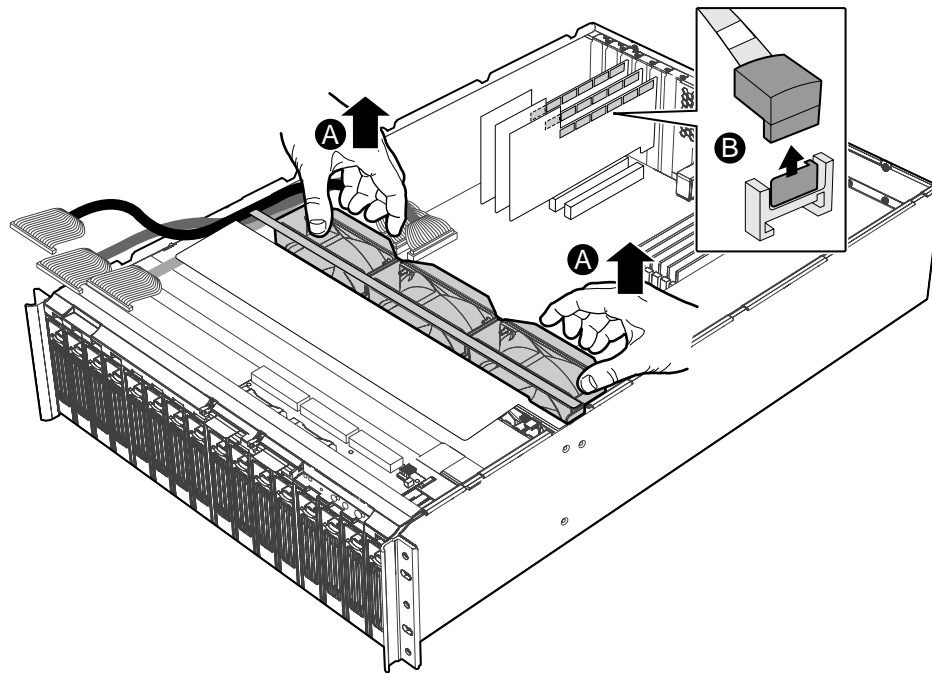

Figure 6. Removing Fan Assembly and SATA Cable Connectors
- B. Carefully remove the 16 SATA Cable connectors from the three SATA Host Bus Adapter Cards near the back of the system. Make a note of the number labels on each SATA Cable. The new SATA Cables will connect to the SATA Host Bus Adapter Cards in the same numeric order. See Figure 6.